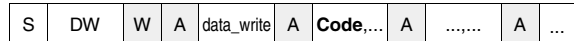

Fig. 3–2: General core access protocol
Fig. 3–1 shows I2C bus protocols for write and read operations of the interface; the read operations require an extra start condition and repetition of the chip address with the device read command (DR). Fields with signals/data originating from the MAS 35x9F are marked by a gray background.